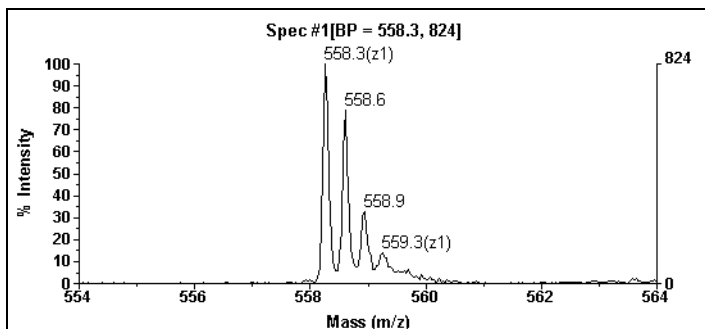

Figure 3-8 Max Charge State Set Too Low and Max Isotope # Set Correctly
When the Max Charge State is set too low, the charge state for all peaks may not be correctly determined. In this example with the Max Charge State set to 2, only the first and fourth peaks are labeled with charge states (Figure 3-8 on page 3-34). This is because the software:
- Does not find a match for peaks at 558.6 m/z or 558.9 m/z, so these peaks are considered to have no calculated charge, and are not labeled with a charge state (Figure 3-8 on page 3-34).